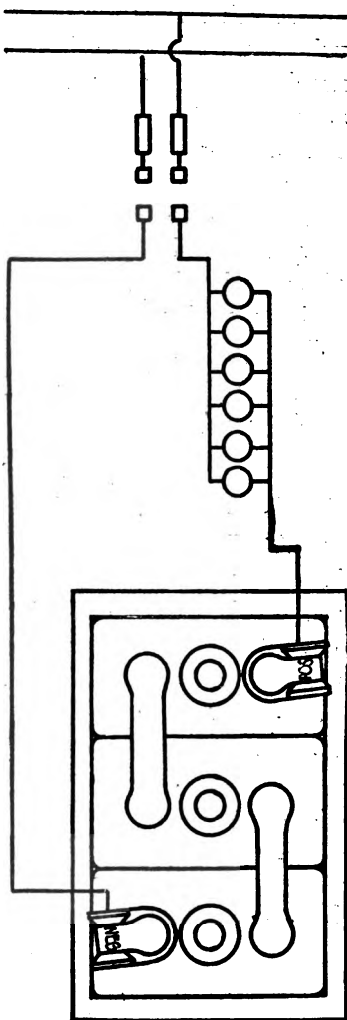

Fig. 409. Diagram of Connections for Charging Six-Volt Storage Battery from Lighting Circuit
A. By inserting a double-pole single-throw switch and 10- or 15-ampere fuses on taps from the mains and ordinary incandescent lamps in series with the battery to reduce the voltage, Fig. 409.